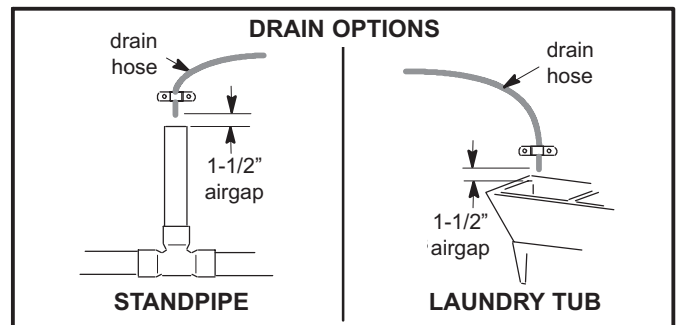

FIG. 3B
- A drain is needed for recharge discharge water. A floor drain is preferred, close to the EcoWater Systems conditioner/refiner. A laundry tub, standpipe, etc., are other options (See Figure 3B).